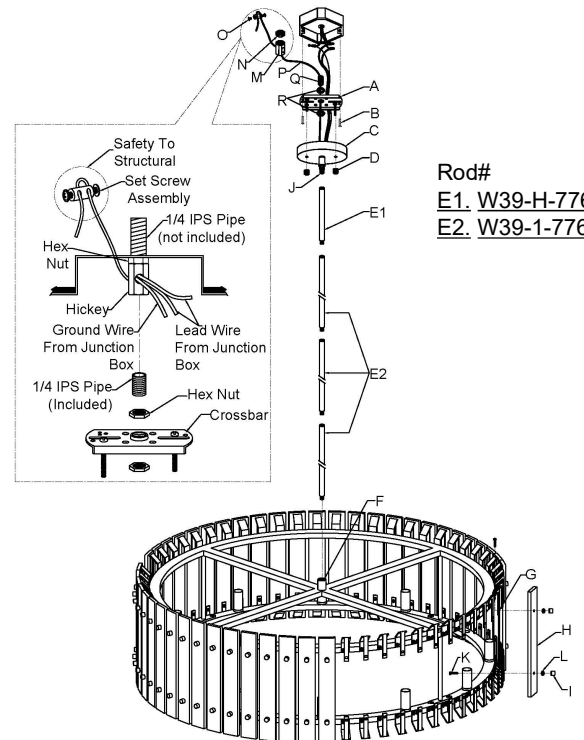

Fig. 2
CONNECTING THE WIRES (Fig. 2)
6. Connect the electrical wires as shown in Fig.2, making sure that all wire connectors are secured. If junction box has a ground wire (green or bare copper), connect the fixture's ground wire to it. Otherwise, connect the fixture's ground wire directly to crossbar (A) using the green screw provided.
8. Attach crossbar (A) to the junction box (Not included) and thread crossbar (A) into 1/4" IPS pipe (Q) then secure with junction box screws (B) and hex nut (R). The side of the mounting plate (A) marked with "GND" and two convex points must face out.